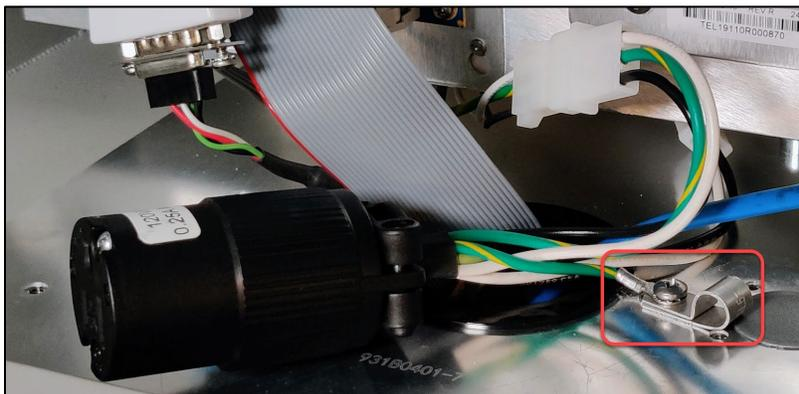

Figure 24 Grounding the AC Outlet
3. Run the cable through the hole and attach the cable and green/yellow striped ground wire to the interface plate using the P-clamp as in Figure 24.